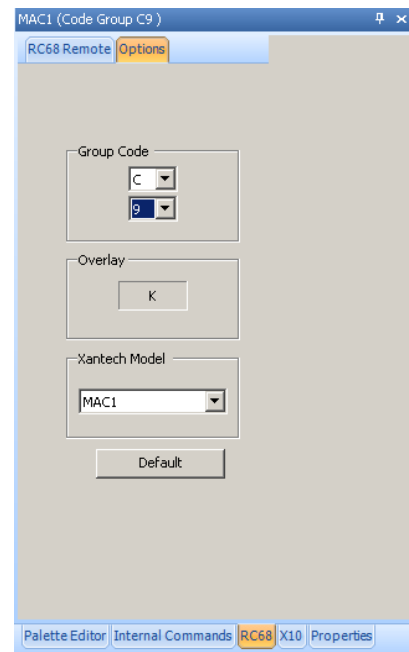

Figure 43 – RC68 Options
4. Under **Xantech Model** select **SPLCD** from the pull-down. If **SPLCD** is not found in the pull-down, select **MAC1** as shown in **Figure 43**.